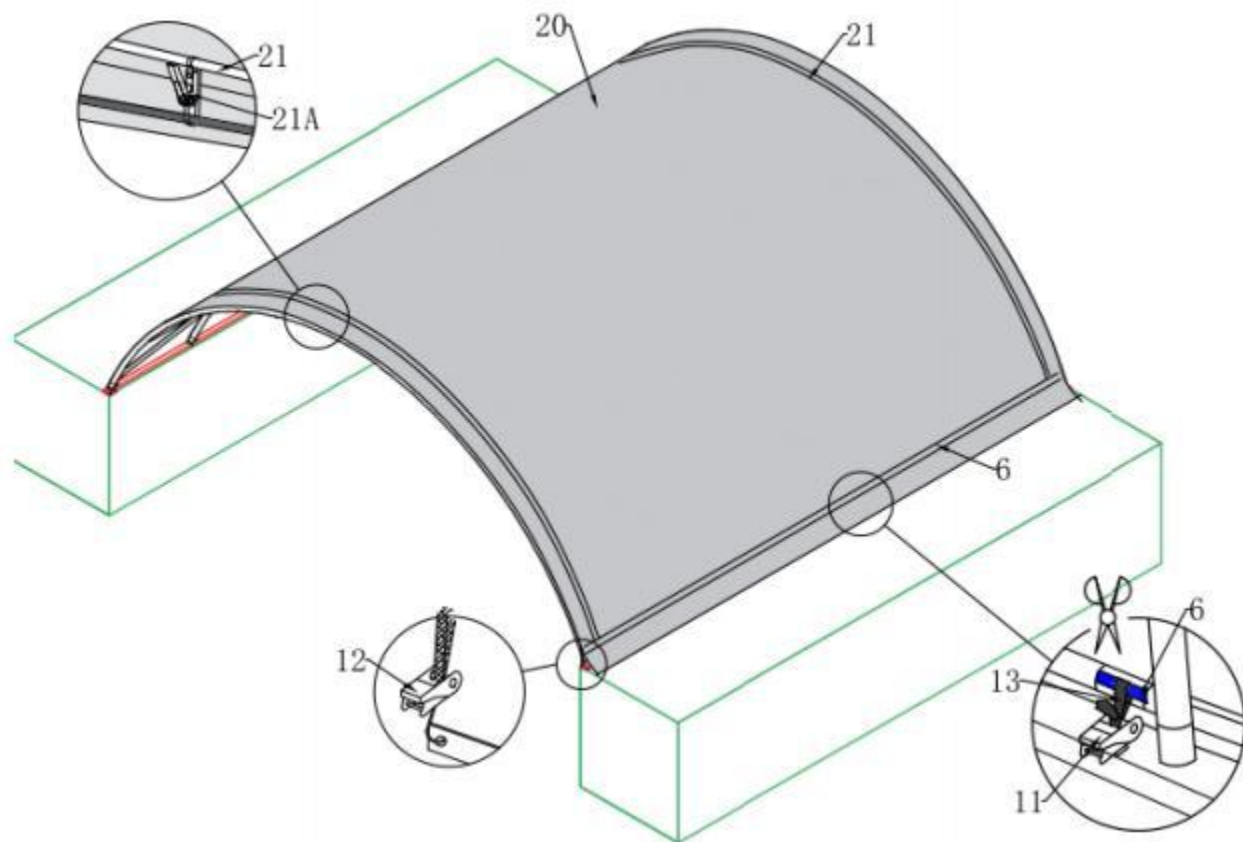

Figure 8
4. Cutting pockets over each ratchet on the base plates and using the Nylon Band (No.13) to tie down the Lower Tensioning Tubes (No. 6) as Figure 8 shown. Finally install the Plastic Plug (No. 18) into two end of the Lower Tensioning Tube.
5. As Figure 8 shown, use NO.12 to tighten the nylon belts at both ends of the roof cover and hook NO.12 onto NO.7.